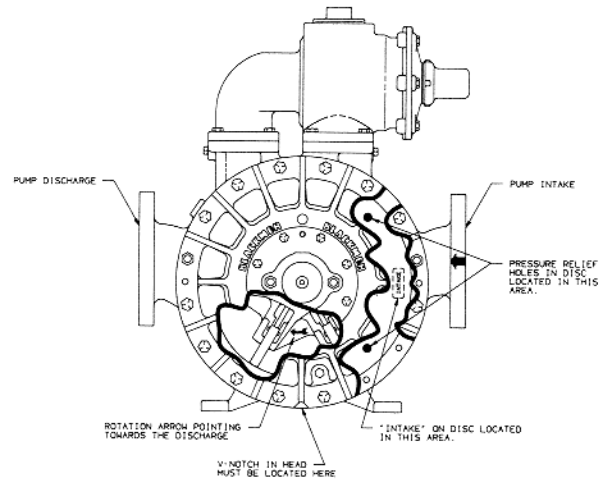

Figure 7
Before the disc is attached to the head, check again to make sure both surfaces are clean and smooth. Gently file away any protruding burrs or rough spots. Place the disc, with the counter-sunk screw holes facing up, on the head. The disc should be positioned such that **when the head is mounted** the word "INTAKE" on the disc will be toward the intake side of the pump, and the two disc holes on either side of the word "INTAKE" will be in the 2 and 4 o'clock positions, if the inlet is on the right. The head drain hole and V-notch should be at the bottom of the pump when the head is properly mounted (see Figure 7).
**NOTE:** When installing the rotor and shaft, the rotation arrow on the rotor must point towards the discharge side of the pump when the arrow is positioned below the shaft. (Refer back to Figure 7.)